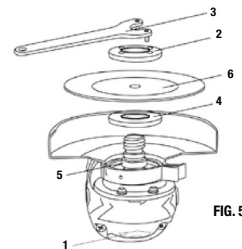

FIG. 5
1. Depress the spindle lock button (1) and rotate the clamp nut (2) until spindle locks (Fig. 5).